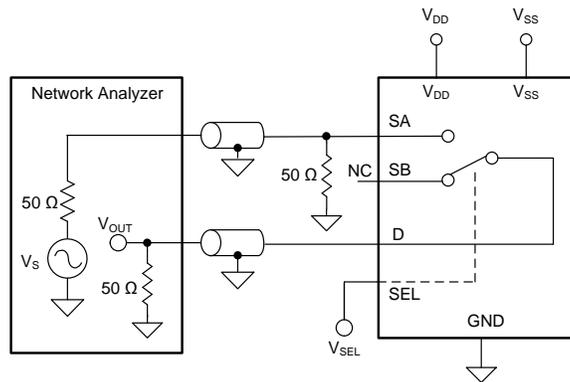

图 23. Off Isolation Measurement Setup
Off isolation is defined as the voltage at the drain pin (D) of the TMUX6136 when a $1-V_{RMS}$ signal is applied to the source pin (Sx) of an off-channel. 图 23 shows the setup used to measure off isolation. Use 公式 2 to compute off isolation.